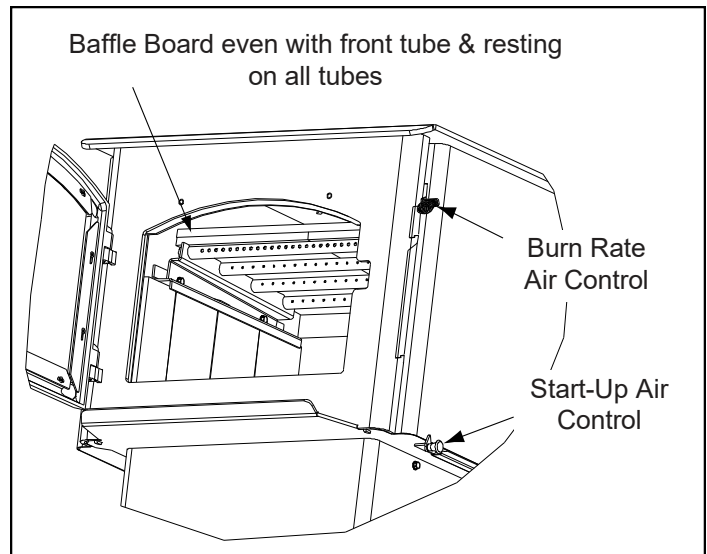
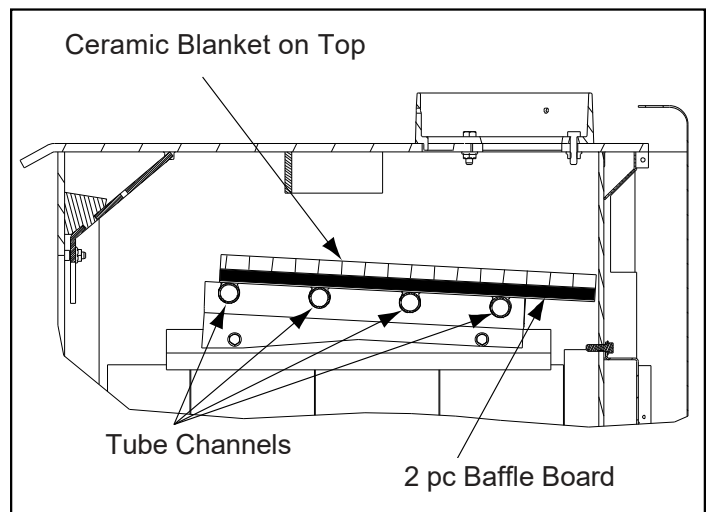

Figure 23.3
Figure 23.4
4. Re-install the baffle pieces one piece at a time. Be sure the baffle boards are even with the front manifold tube and is resting on all tubes (**Figure 23.3** and **Figure 23.4**).
5. To re-install the ceramic blanket, it is easier to fold it in half first. Place on top of baffle board, open up and flatten and smooth out the blanket. Re-check the baffle board for correct positioning (**Figure 23.3** and **Figure 23.4**).